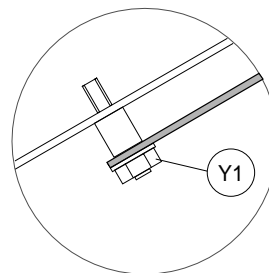

Fig. 42
- 4) take the electronic circuit board off by unscrewing the (Y1) nuts off (fig. 42).